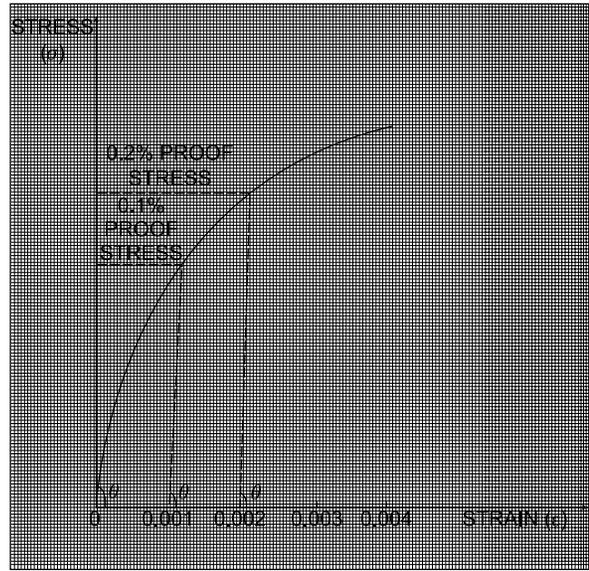

Figure 3.6 Stress-Strain curves for high tension steels, aluminium alloys, etc.
Certain materials, such as high-tensile steel, aluminium alloy, titanium, and so on, do not exhibit a definite yield point in their stress-strain curves, unlike mild steel, as shown in Figure 3.6.
0.001, is set off on the horizontal strain axis of Figure 3.6 and a straight line is drawn parallel to the straight part of the stress-strain curve from this point, near to the bottom of the stress-strain curve where the angle is  $\theta$ . The intersection of this broken line with the stress-strain curve gives the 0.1% proof stress, as shown in Figure 3.6.
0.002, is set off on the horizontal strain axis of Figure 3.6 and a straight line is drawn from this point at an angle  $\theta$  to the horizontal and parallel to the linear part of the bottom of the stress-strain curve as shown in Figure 3.6. The 0.2% proof stress is **not** twice the value of the 0.1% proof stress! It may be about 10% larger.